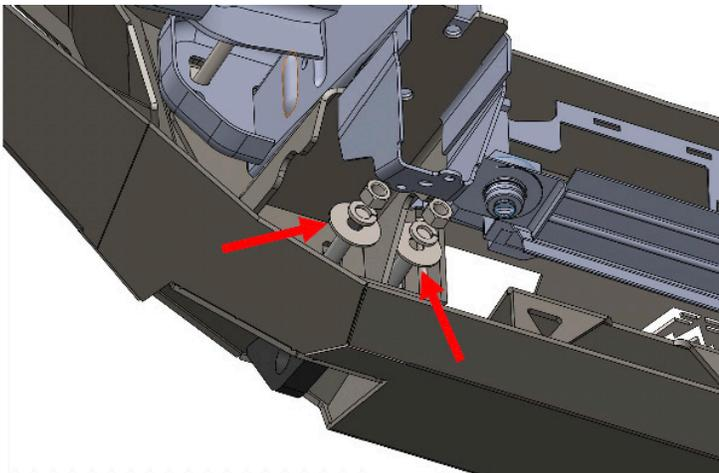

Figure 19
7. Using a 3/4" socket wrench, install the four supplied 1/2" USS flat washer, lock washers, and nuts to the previously installed bolt strips and the bottom of the bumper. (Figure 19)